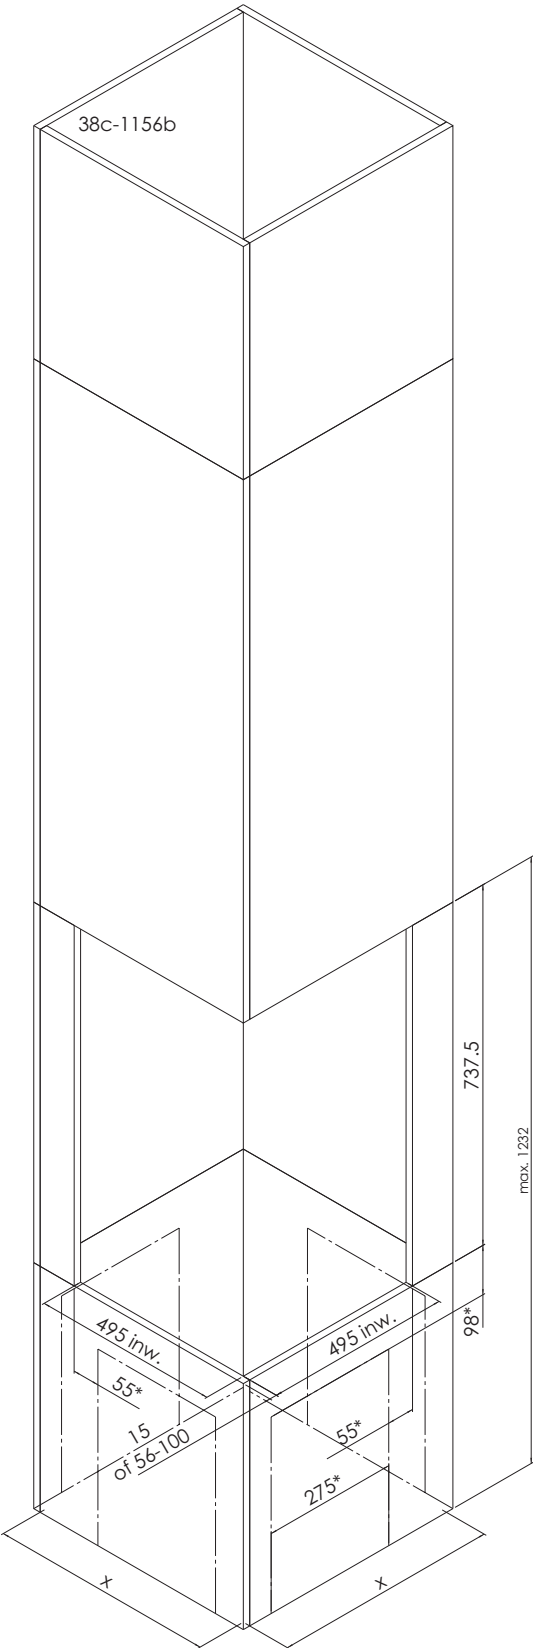

fig. 4
2. Recessed, i.e. the front is inside the chimney breast (figures 4 and 6).